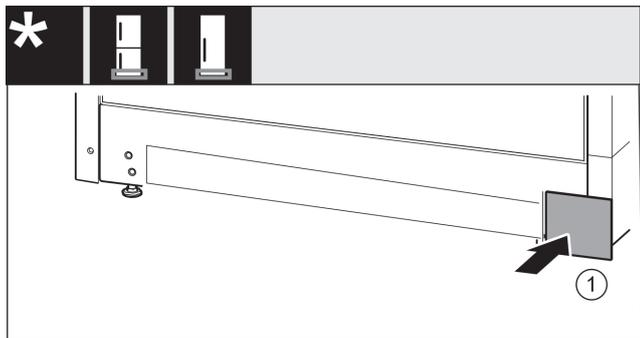

Fig. 27
► Re-attach the cover to the other side. Fig. 27 (1)